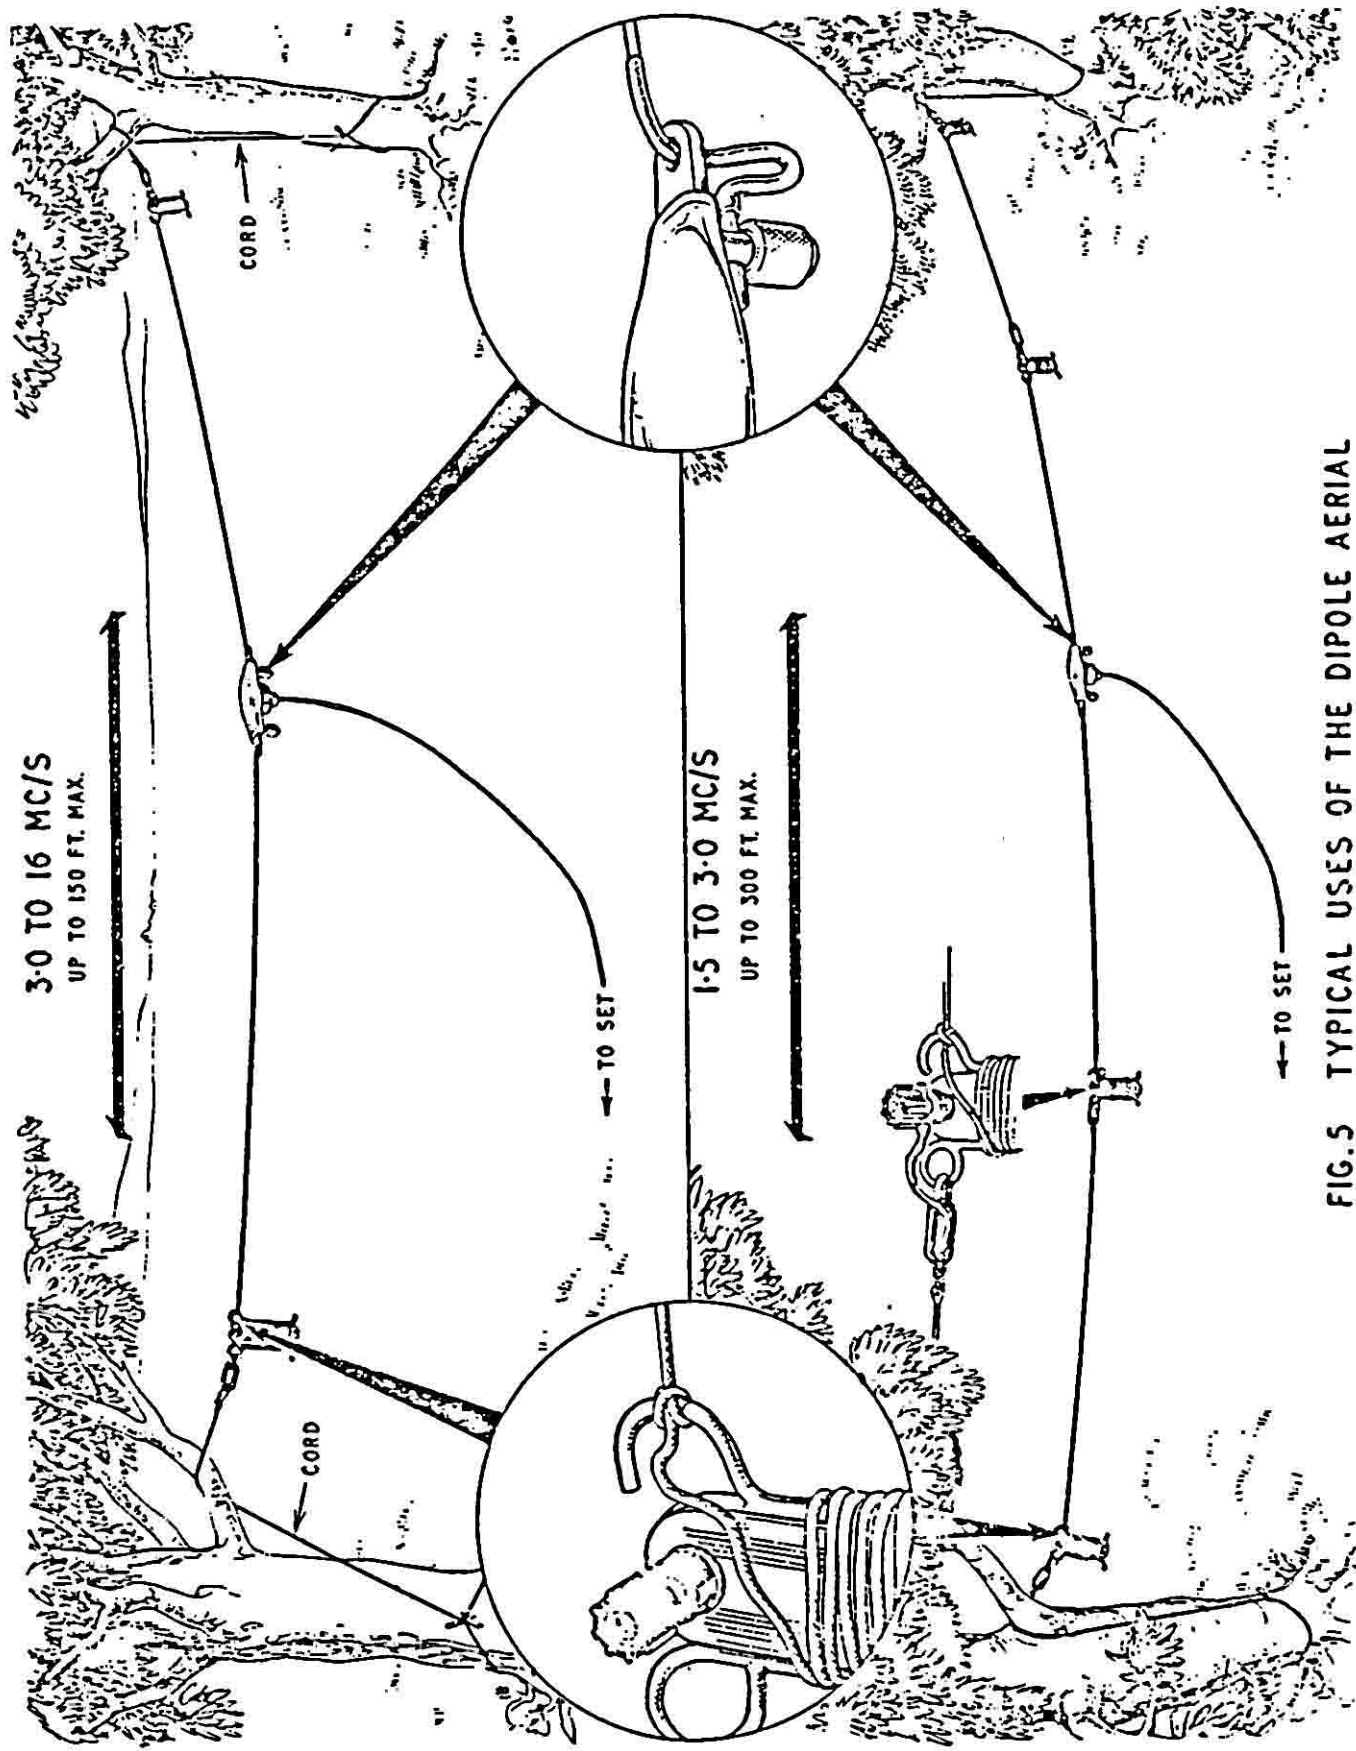

FIG.5 TYPICAL USES OF THE DIPOLE AERIAL
- 1.4 Table 1 shows the composition of the Braid Dipole Aerial (see also fig. 5).
- 1.10 The frequency coverage of the braid dipole aerial can be extended downwards to 1.5 Mc/s by using two additional elements, one for each arm, to increase the overall length of the aerial. (See fig. 5).
- 1.12 The dipole aerial should be suspended from two masts or from other convenient supports (see fig. 5). It is recommended that the aerial be erected as high as possible and broadside to the direction in which it is required to work.
- 2.4 Insert the copper tag, attached to the free end of the braid cable, through the hole in one end of the centre junction and secure it to the nearest terminal (see fig. 5). The rubber tubing must be so positioned that it protects the braid cable from abrasion where it passes through the hole in the centre junction.
- 2.7 The aerial should now have the appearance of the aerial shown in the upper drawing of fig. 5 and may be hoisted into position using suitable lengths of cord attached to the chain insulators. It is emphasised that the aerial should be as high as possible at both ends and will give best results when erected broadside to the distant station.
- 3.1 To extend the frequency range of the aerial from 3 Mc/s down to 1.5 Mc/s, an additional Element Dipole 75 feet can be connected in series with each element of the existing dipole (see fig. 5).
- 3.3 Connect the two Elements Dipole 75 feet to the centre junction as before, then connect the free ends of the two outer sections to the terminals on the formers of the inner pair of elements. The strain on the cable of the outer sections should be taken up by tying the braid cable to the insulators of the inner sections and leaving a loop between the insulator and the terminal (see fig. 5).